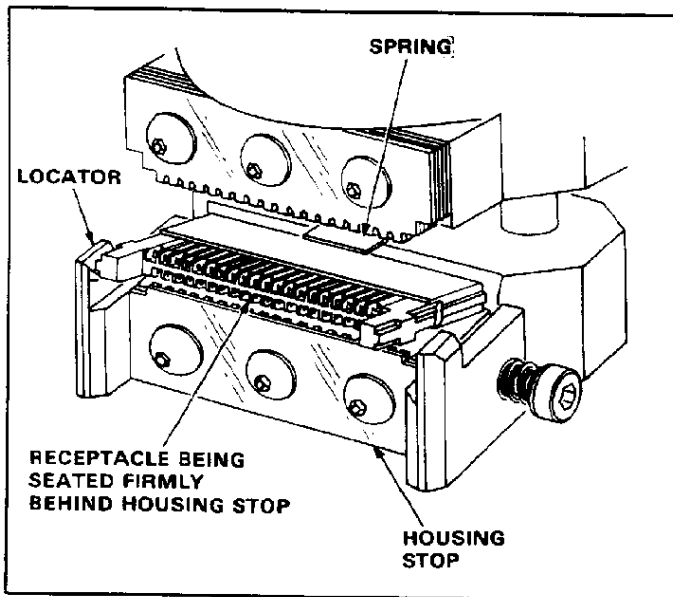

Fig. 4
6. *Locate* a receptacle housing of appropriate size on lower die subassembly: slip mating face of housing under spring and push housing toward applicator, pressing downward (Figure 4). *The spring-loaded locators will spread outward, allowing the housing to seat firmly behind the housing stop.*
1. Refer to Figure 4, and *locate* housing on lower die as described in Paragraph 3, APPLICATOR SETUP, Step 6.